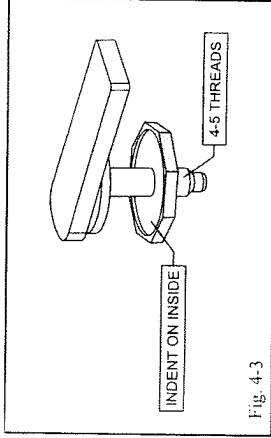

Fig. 4-3
- (d) Install one (1) plastic retainer (5) with the indent on the inside onto each flag bolt (4) about 5 threads down, do this for all flag bolts (Fig. 4-3).